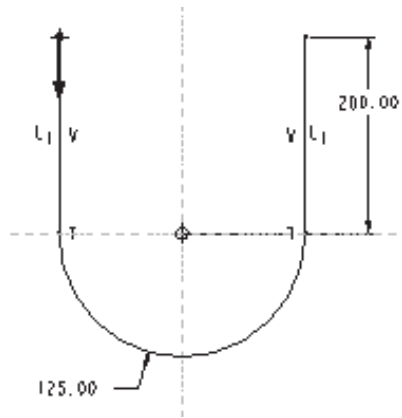

Figure 7-46 Sketch for trajectory of the sweep feature
1. Draw the sketch for the trajectory and then add constraints and dimensions shown in Figure 7-46.